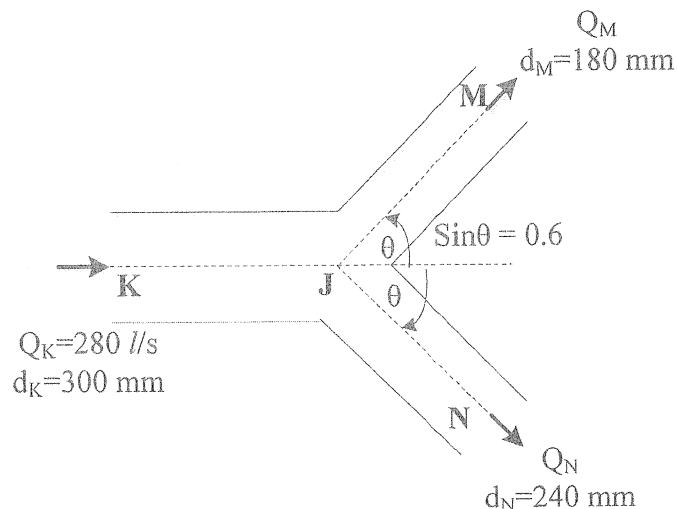

Figure Q4
- Find the momentum flow rate in the flow direction at section (2). [2.0 Marks]
- Q4. A horizontal Wye junction in a pipe KJ carrying oil of density 800 kg/m^3 at a volume flow rate of $Q_K = 280 \text{ l/s}$ is shown in figure Q4. The flow is divided into two streams Q_M along JM and Q_N along JN. The head loss along KJM is $0.325 \frac{V_K^2}{2g}$ and the head loss along KJN is $0.3 \frac{V_K^2}{2g}$ where V_K is the velocity at K. The flow is steady and one dimensional. The pressures at K and N are equal and the pressure at M is atmospheric.